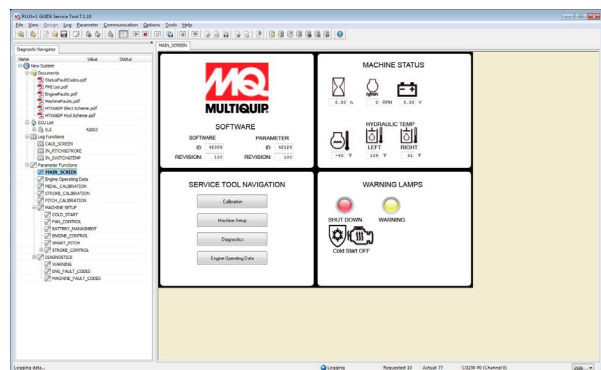
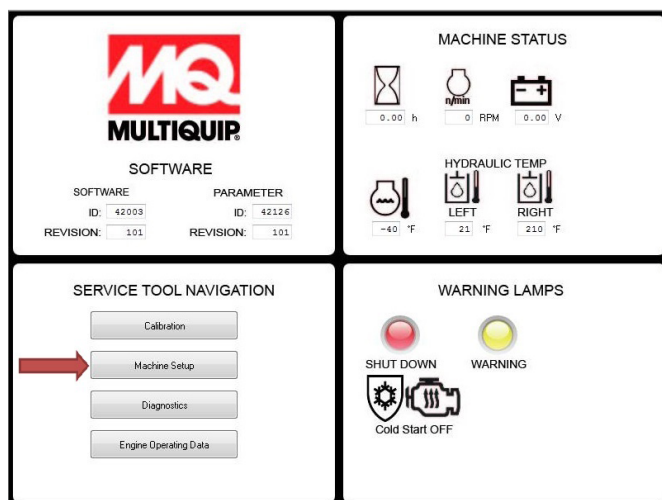

Figure 21. Service Tool Main Screen
Figure 22. Machine Setup Screen
6. On the Service Tool software on your laptop, the main screen should show Software info loaded from trowel MCU and the Machine Status box shows lamps lit (Figure 21).
4. On the service tool main screen (Figure 21), click "Machine Setup" button (Figure 22).